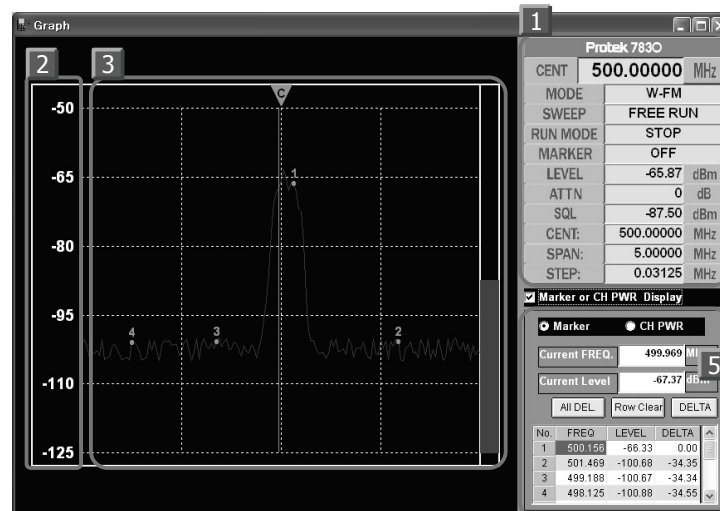

Figure 4.17. Information of Marker of Graph window
- 5) If user check “Maker or CH PWR Display” item check box as figure 4.17 note 5 support maker information.
- 12) Figure 4.17 note 5 information, as following describe, if “Marker or CH PWR Display” check box be selected check & “Marker” list in this case could be convert.
- 15) Figure 4.17, note 5 User use “ALL DEL” , “ROW Clear” ,